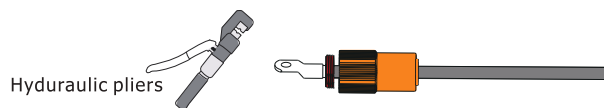

Figure 4.2-3
Step2: Crimp the metal terminal, as shown in Pic 3.5, as shown in Figure 4.2-3.